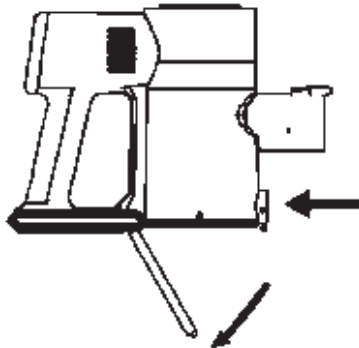

Figure 4
1. Press the bottom button to open the bottom of the dust cup to clean up the dust in the cup. Figure 4